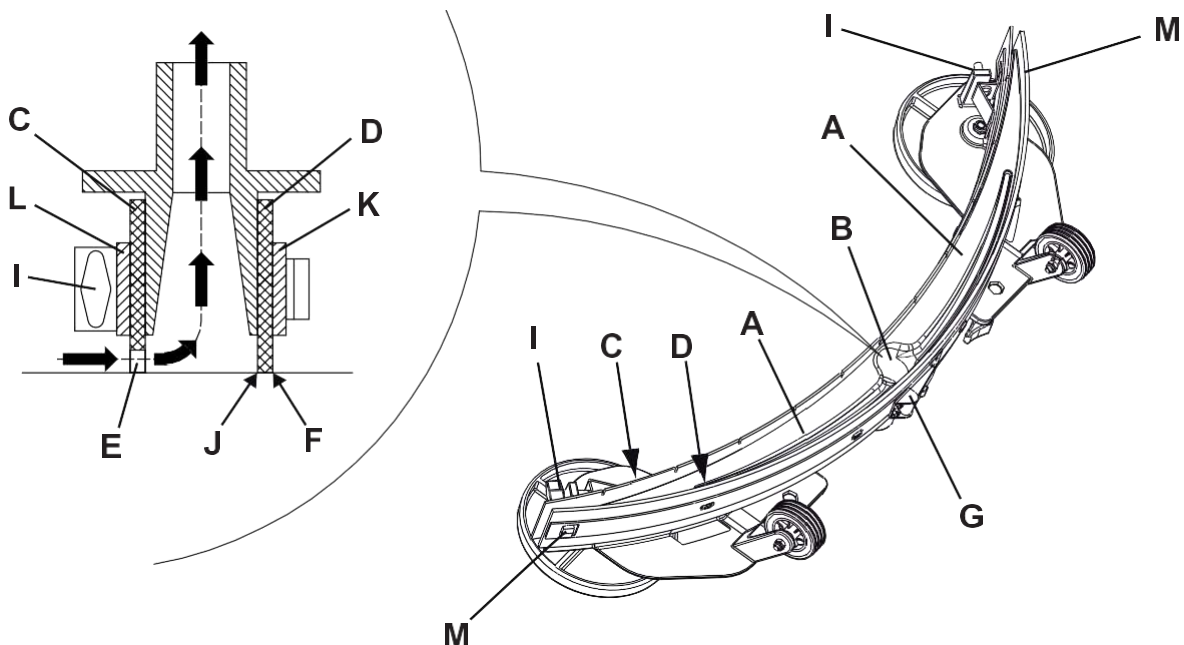

Figure 11
2. Turn off the machine by pressing and holding switch (66) for nearly a second.
3. Lower the squeegee (25) with the lever (10).
4. Loosen the handwheels (26) and remove the squeegee (25).
5. Disconnect the vacuum hose (15) from the squeegee.
6. Wash and clean the squeegee (Fig. 11). Clean the compartments (A, Fig. 11) and the hole (B) especially. Check the front blade (C) and the rear blade (D) for integrity, cuts and tears; if necessary replace them (see the procedure in the following paragraph).
1. Clean the squeegee (Fig. 11) as shown in the previous paragraph.
2. Check that the edges (E) of the front blade (C) and the edges (F) of the rear blade (D) lay down on the same level, along their length; otherwise adjust their height according to the following procedure:
- Remove the tie rod (G), disengage the fasteners (M) to adjust the rear blade (D); then engage the fasteners and install the tie rod.
- Loosen the handwheels (I) and adjust the front blade (C); then tighten the handwheels.
3. Check the front blade (C) and rear blade (D) for integrity, cuts and tears; if necessary replace them as shown below. Check the front corner (J) of the rear blade for wear; if necessary, overturn the blade to replace the worn corner with an integral one. If the other corners are worn too, replace the blade according to the following procedure:
- Disengage the tie rod (G), disengage the fasteners (M), remove the retaining strip (K) and replace/overturn the rear blade (D). Install the blade in the reverse order of removal.
- Unscrew the handwheels (I) and remove the retaining strip (L), then replace the front blade (C). Install the blade in the reverse order of removal.